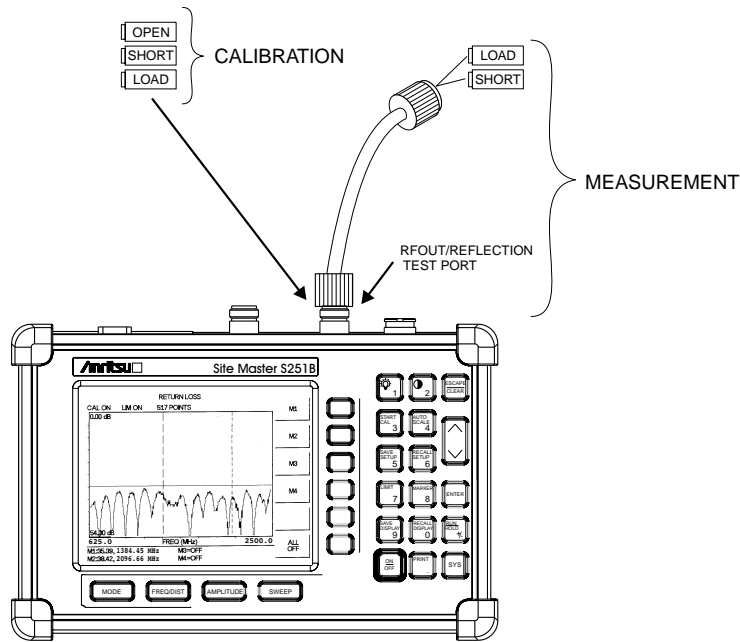

Figure 4-9. Cable Measurement Test Setup
Step 16. Connect the Load to the open end of the test port extension cable as shown in Figure 4-9.